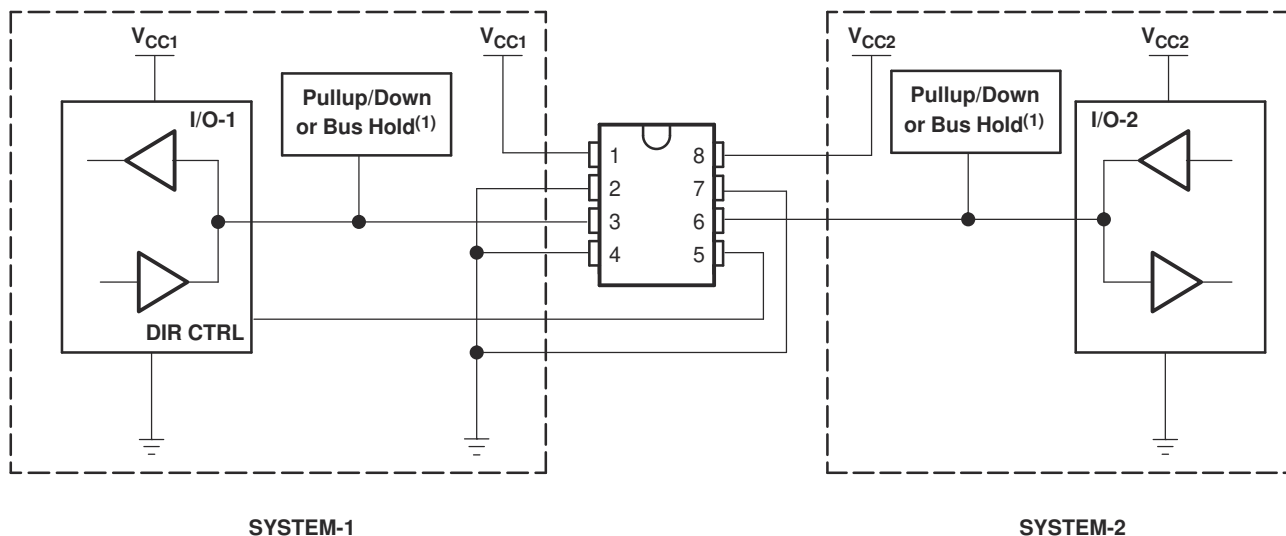

Figure 9-2. Bidirectional Logic Level-Shifting Application
Figure 9-2 shows the SN74LVC2T45 being used in a bidirectional logic level-shifting application. Because the SN74LVC2T45 does not have an output-enable (OE) pin, the system designer should take precautions to avoid bus contention between SYSTEM-1 and SYSTEM-2 when changing directions.